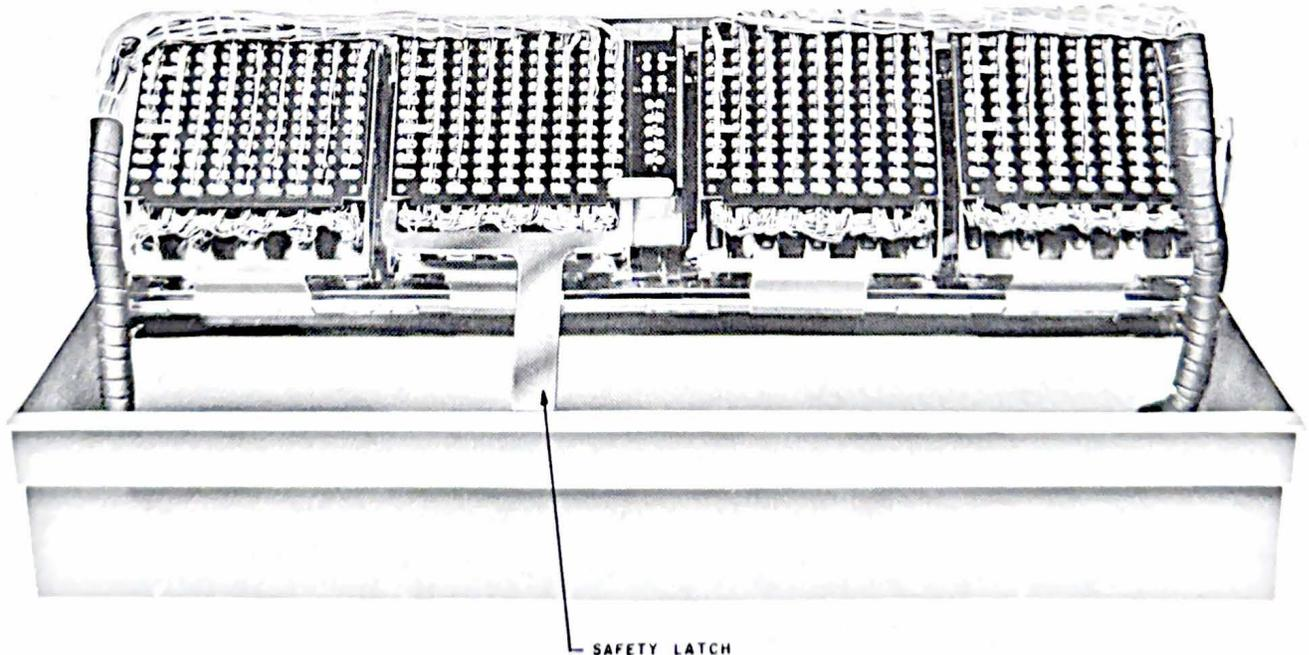

Fig. 15—Cable Entrance, Right Side 404A Mounting
5.05 Fig. 15 illustrates a typical arrangement of the cable on a 64A connecting block frame.